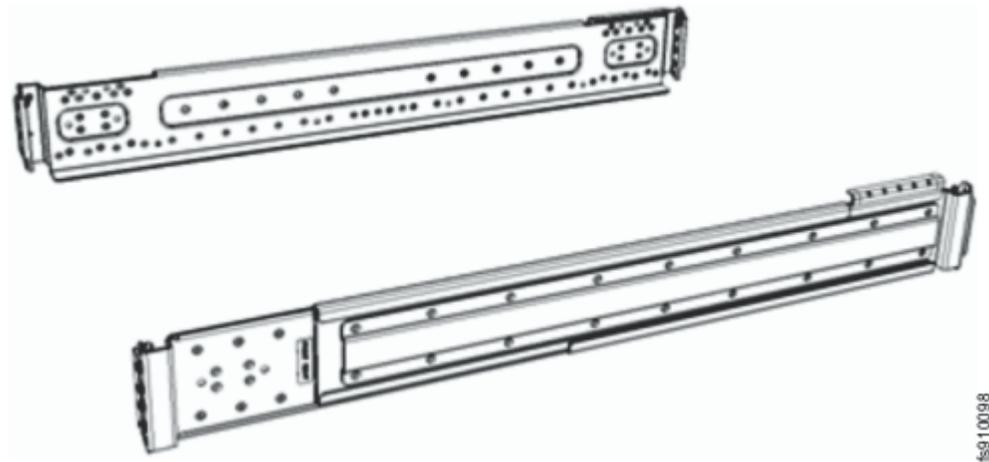

Figure 30. Control enclosure support rails
1. Locate the control enclosure rails, as shown in Figure 30 on page 72.